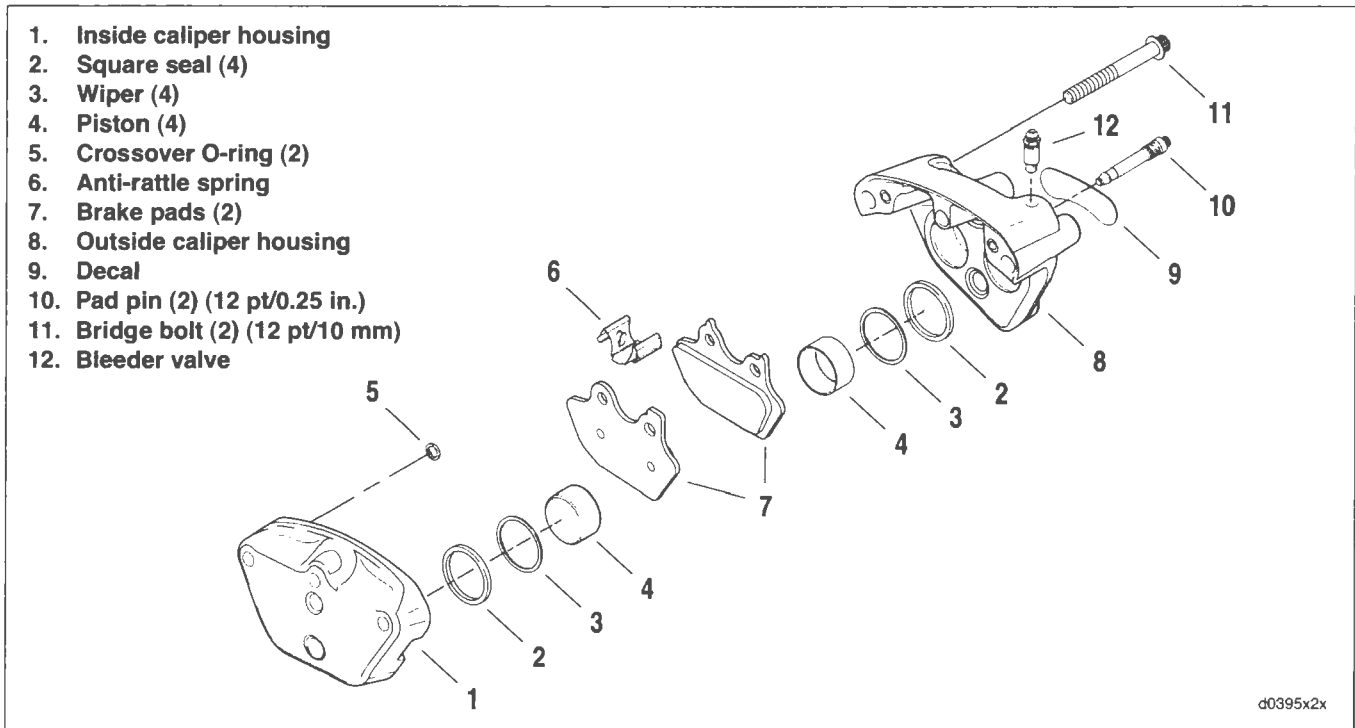

Figure 2-62. Front Brake Caliper
1. See Figure 2-62. Remove pad pins (10) (12 pt/0.25 in.), brake pads (7) and bridge bolts (11) (12 pt/10 mm) to separate caliper housings (1, 8).
2. Remove anti-rattle spring (6). If necessary, remove bleeder valve (12).